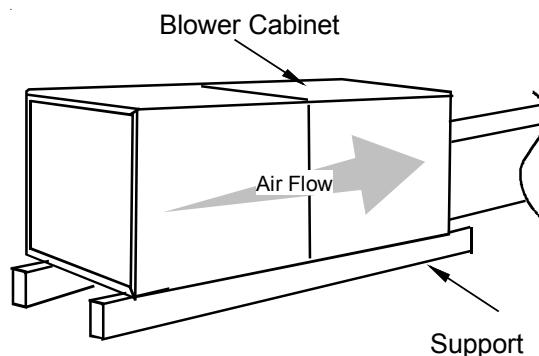

Figure 7
For horizontal installations, the coil cabinet must be upstream of the blower cabinet (Figure 7 and 8).
1. Set the unit near its final installation place. The unit must be supported along the entire length of the unit (Figure 7 and 8). Rubber isolation pads may be used to reduce sound and vibration transmission. All panels should be in place when installing the unit. Ensure there is ample support for the unit and all attached ductwork.